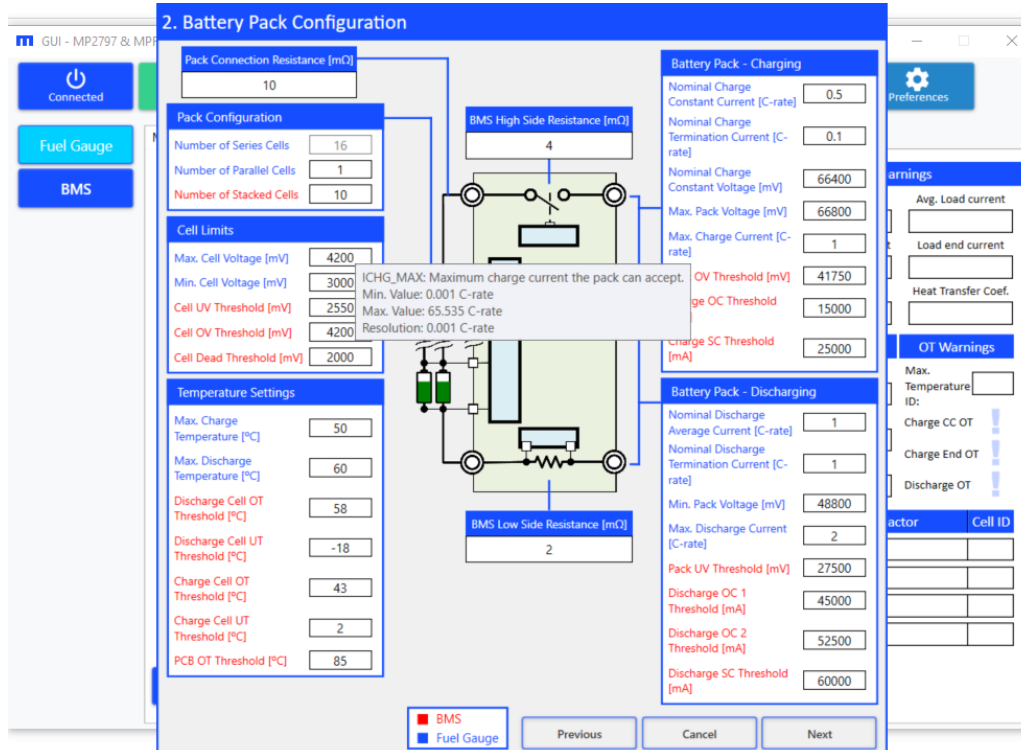

Figure 35: Configuration Wizard 3 – Battery Pack Configuration (Register Details)
10. Place the cursor on top of a register name to display the register’s information (see Figure 35). For more detailed information on the fuel gauge registers, refer to the relevant MPF4279x datasheet.